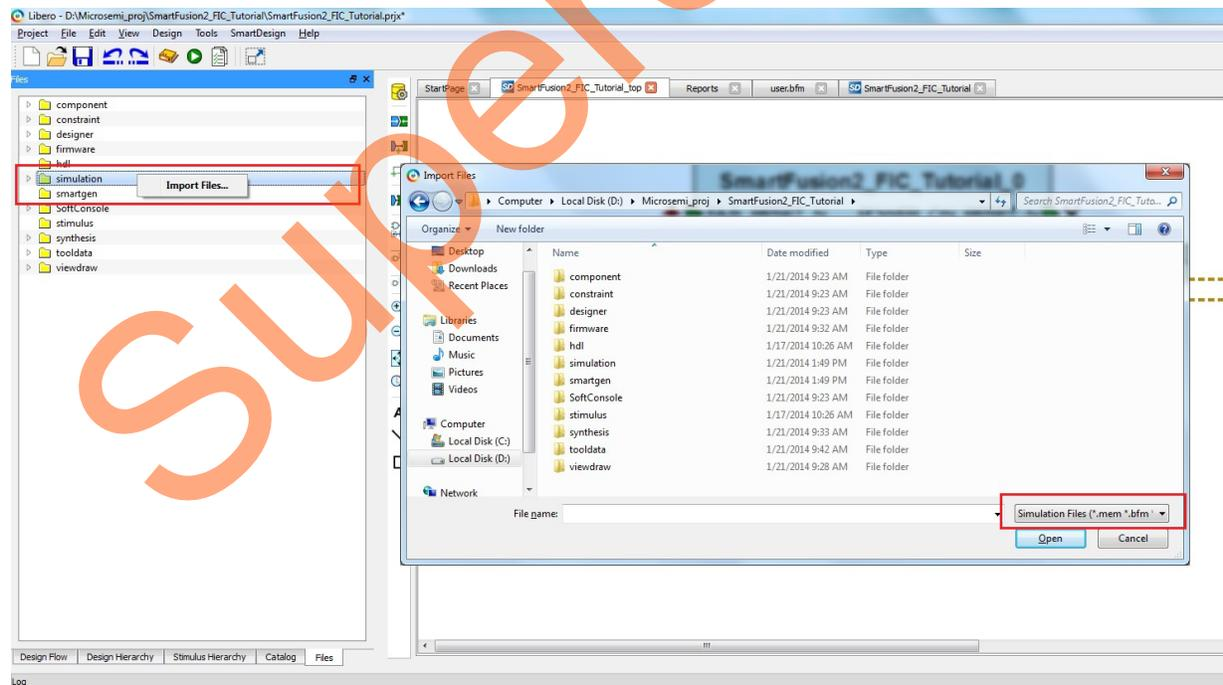

Figure 22 • Import bfm file
1. For SmartFusion2 Development Kit board, right-click the simulation under project files and select import files to import the user .bfm file which is located in downloaded design files (\SmartFusion2\\_FIC\\_TutorialSourceFor\\_SF2\\_Dev\\_Kit\\_Board\user.bfm) as shown in Figure 22 or select **Files > Import > Others** to import the user .bfm file.